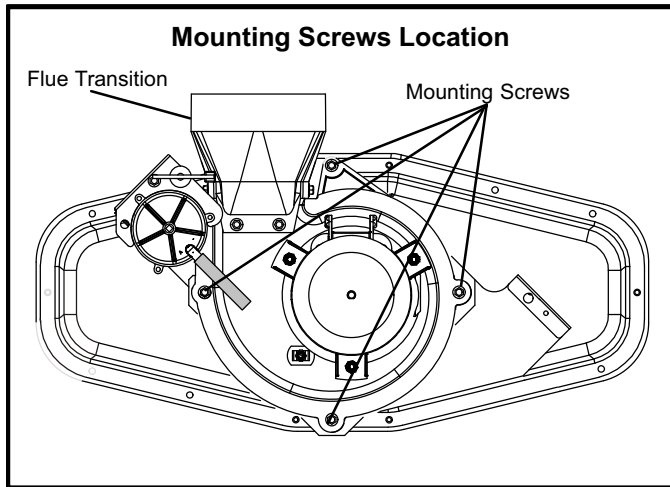

FIGURE 15
- 1 - Remove the four mounting screws (figure 15) which secure the combustion air inducer / pressure switch assembly to the orifice plate. Lift the assembly and rotate it 90 degrees clockwise or counterclockwise to either the 3 o'clock position or to 9 o'clock position. Re-secure with four screws. Gasket should be left in place.